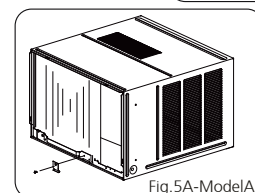

Fig. 5A-Model A
1. Remove one screw securing the chassis fixing bracket, then take down the chassis fixing bracket as shown in Fig. 5A.